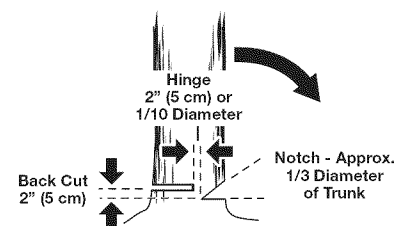
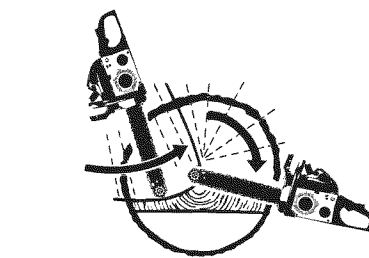
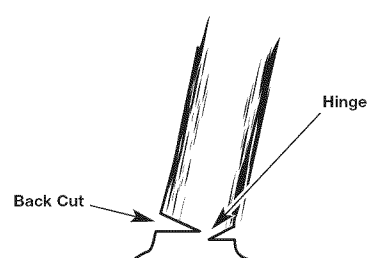
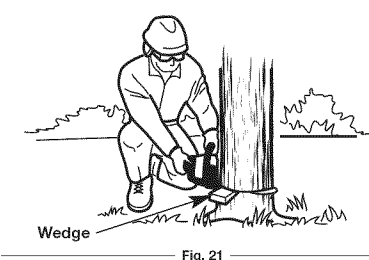

Fig. 18
Fig. 19
Fig. 20
Fig. 21
- Notched Undercut.** This cut determines the direction that the tree will fall. It should be made on the side of the tree facing the felling direction. Cut a notch about 1/3 the diameter of the trunk in the side of the tree. Make the notch cuts so they intersect at a right angle to the line of fall. This notch should be cleaned out to leave a straight line. To keep the weight of the wood off the saw, always make the lower cut of the notch before the upper cut. (Fig. 18)
- Felling Back Cut.** This cut fells the tree. Make the back cut level and horizontal, and at a minimum of 2 inches (5 cm) above the horizontal cut of the notch (Fig. 18). If the diameter of the tree is greater than the length of the guide bar, make two cuts as shown (Fig. 19). When the felling cut gets close to the hinge, the tree should begin to fall (Fig. 20). If there is any chance the tree may not fall in the desired direction or if it may rock back and bind the saw chain, stop cutting before the felling cut is complete and use wedges of wood or plastic to open the cut and drop the tree along its desired line of fall (Fig. 21).